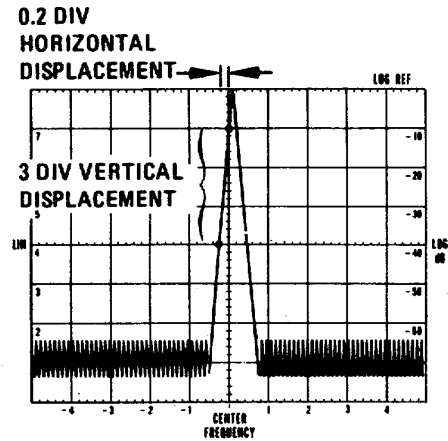

Figure 4-15. Demodulation Sensitivity Measurement.
3. Refer to Figure 4-15. Tune FREQUENCY so that the upward slope of the display intersects the CENTER FREQUENCY graticule line 1 division from the top.